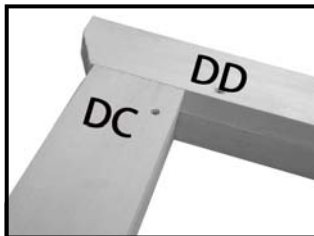

Fig B8
12. Place the DD part on top of a DB part. The DD part is positioned so there is an even overhang (fig B8). Mark out and drill fix as before. But start at 100mm from the end of part DD.